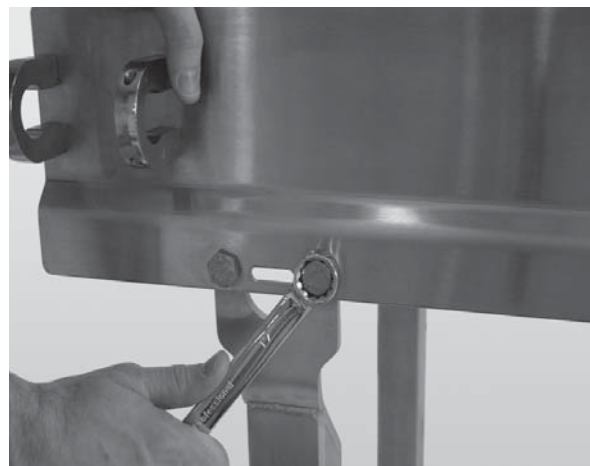

Figure 13
2. Attach the stands to the frame (**Figure 13**).